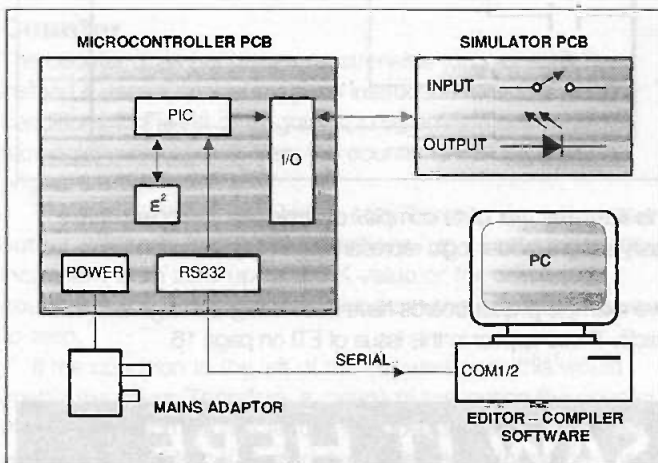

Figure 1: an overview: the microcontroller pcb and simulator pcb connected to a mains adaptor and a PC
**F**irst an overview. **Figure 1** shows how the hardware components go together. At the heart of the system is the microcontroller PCB, which is where the ladder diagram software is downloaded and executed. To accomplish this we need to use the ladder logic editor/compiler software running on a standard PC.